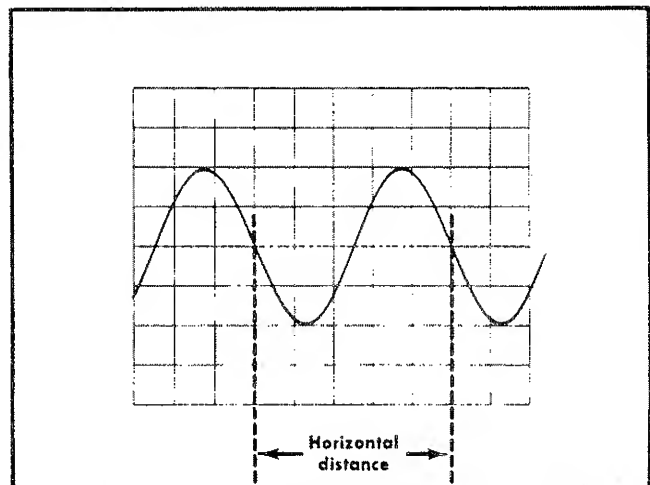

Fig. 1-8. Measuring time duration (period) between points on a waveform.
2. Set the time-base triggering controls to obtain a stable display. Set the Sec/Div switch to the fastest sweep rate that will permit displaying one cycle of the waveform in less than eight divisions (some non-linearity may occur in the first and last graticule divisions of display). Refer to Fig. 1-8.
EXAMPLE: The frequency of the signal shown in Fig. 1-8, which has a period of 0.5 millisecond is: